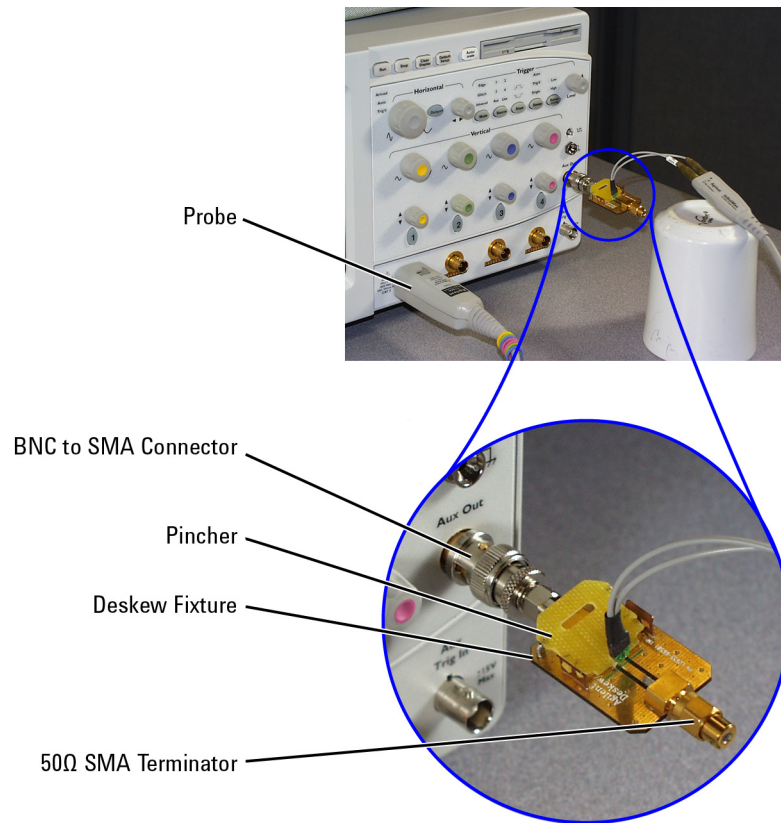

Figure 107 Connecting the Probe and Deskew Fixture
- 1 As shown in **Figure 107** on page 130, connect BNC (male) to SMA (male) adapter to the deskew fixture on the connector closest to the yellow pincher.
For the following procedure, refer to **Figure 107** on page 130.